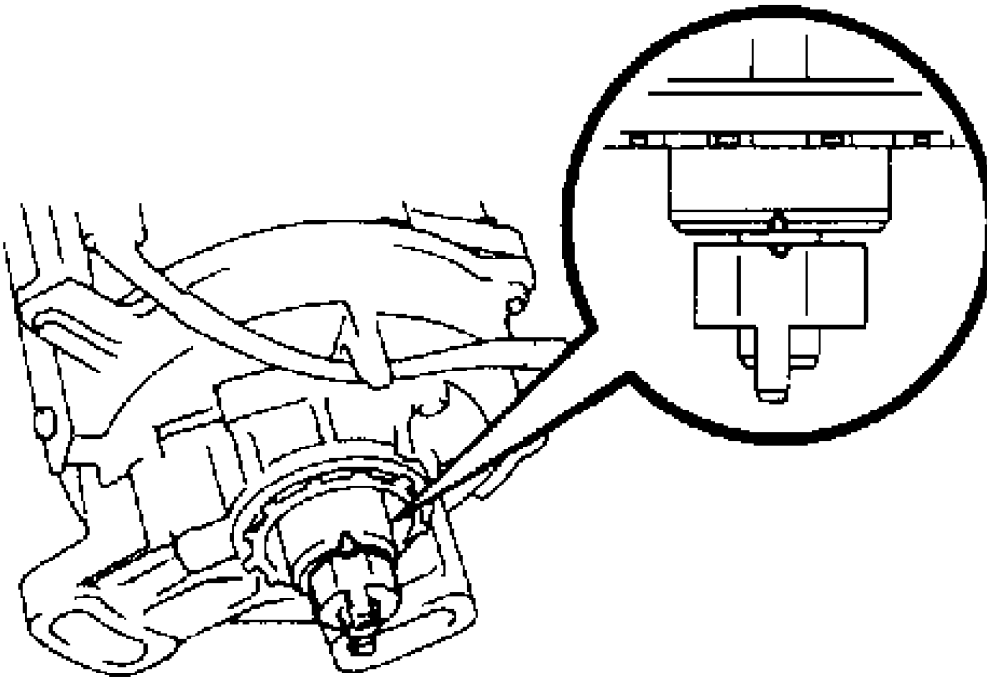

Fig. 1: Aligning Distributor Cut-Out Marks (Similar)
2) Align cut-out portion of coupling with groove of housing. See Fig. 1. Insert distributor, aligning center of flange with bolt hole on cylinder head. Lightly tighten 2 bolts. Connect spark plug wire to cap in proper order. Connect distributor electrical connector. Connect negative battery cable. Set ignition timing. Tighten distributor hold-down bolt/nut(s). See TORQUE SPECIFICATIONS TABLE at the end of this article.
2) Align cut-out portion of coupling with housing groove. See Fig. 1. Insert distributor, aligning center of flange with bolt hole on cylinder head. Lightly tighten bolt. Connect spark plug wire to cap in proper order. Connect distributor electrical connector. Connect negative battery cable. Set ignition timing. Tighten distributor hold-down bolt/nut(s). See TORQUE SPECIFICATIONS TABLE at the end of this article.